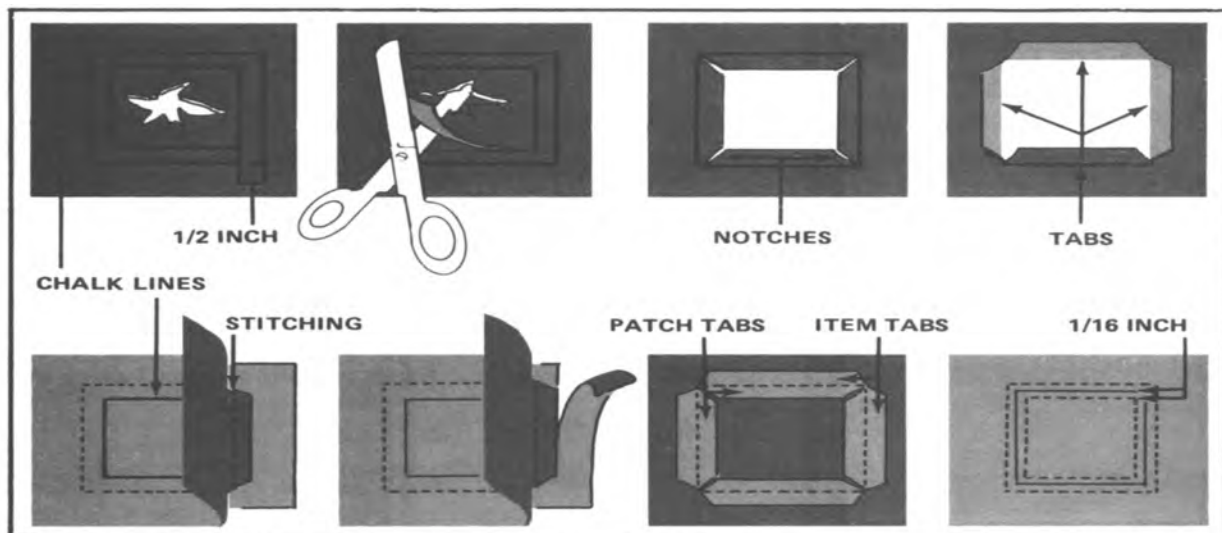

Figure 4-6. Set-in patch
b. Set-In Patch. The set-in patch (Figure 4-6) is not like a top patch or inverted patch, which is sewn on or under a damaged area. A set-in patch takes the place of a damaged area. The damaged area is cut out, and then a set-in patch is tailor-made to fit the hole. A set-in patch is used when a less noticeable patch is needed. To make a set-in patch--
- (1) Place two pieces of material on table faceup.
- (2) Mark materials A and B. Material A represents the damaged area. Material B represents the patch.
- (3) On material A, cut out a 4-inch square from the center of the damaged area. This is done by marking 2 inches from all edges of the damage and mark off a square. Allow 1/2 inch for seaming purpose.
- (4) Notch all four corners of the square at a 45-degree angle.
- (5) Place and center material A over material B. (Materials are faceup.)
(6) Starting on the right side of the materials, fold under the notched seams of material A in such a manner that the seam is to the operator's right and the body of the material to the operator's left. At this point, the right side of material A, the underside, is shown up.
(7) Start at the upper portion of the notched seam and sew down to the bottom notch. The beginning and end of the stitch line should be one stitch length in from the corner of notch. (This will prevent any raw edge from showing when completed.)
(8) Continue to sew the remaining three edges of material A to material B in the same manner as shown in the step above.
(9) Cut and trim excess material from material B to coincide with the edges of seams on material A.
(10) Turn materials flat with the underside up, and open seams. For best results, use an iron to press open.